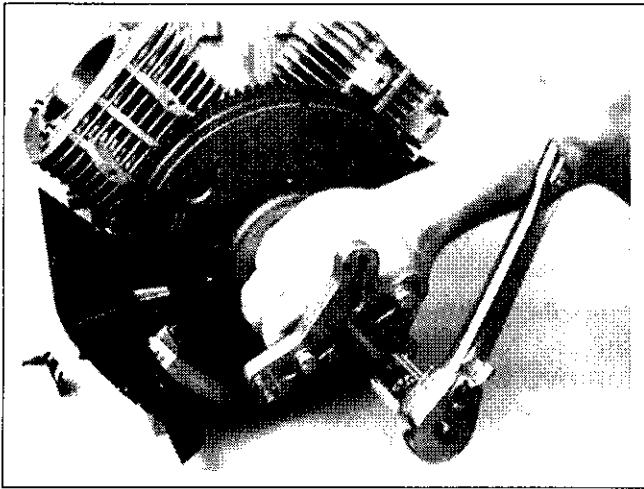

Figure 9-55. Removing Flywheel with a Puller.
3. Use a puller to remove the flywheel from the crankshaft. See Figure 9-55.